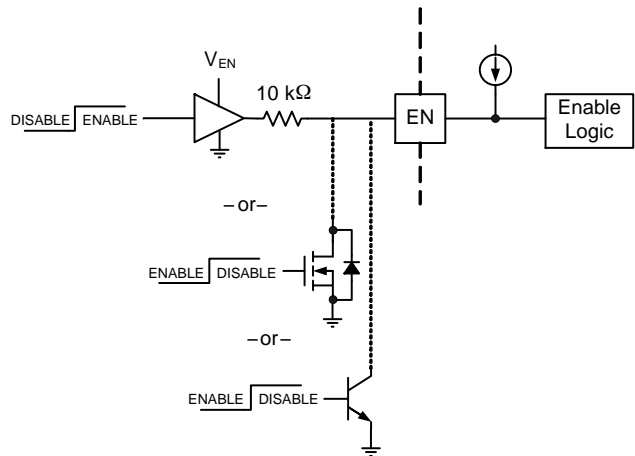

Figure 27. Enable Circuits: Push-Pull, Open-Drain, or Open-Collector
The device has an enable pin (EN) with internal 50 μ A pullup current. This gives the user the option of driving EN with a push-pull or open-drain/collector enable signal. When driving EN with an external logic supply a 10 k Ω series current limiting resistor must be placed in series with EN. See Figure 27. The maximum enable threshold is 3.4 V. If no external drive voltage is available, the internal pullup can be used to enable the device, and an open drain/collector input, such as a MOSFET or BJT can be used to disable the device. A capacitor connected between EN and ground can be used with the internal pullup current source to provide a fixed delay to turn-on and turn off. See Equation 1.